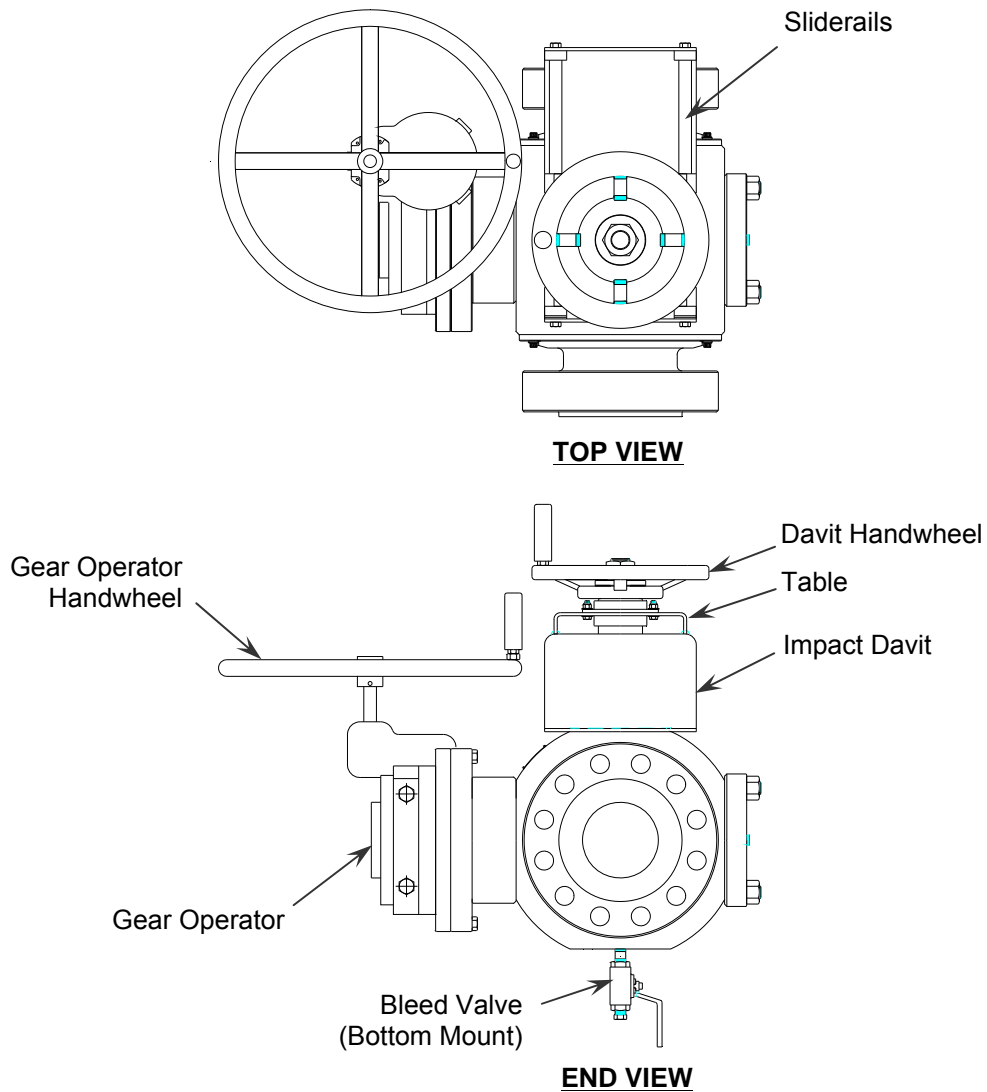

Figure 5: Argus Pig Valve c/w Impact Davit & Gear Operator
7.3 IMPACT DAVIT OPERATION (Refer to Figure 5)